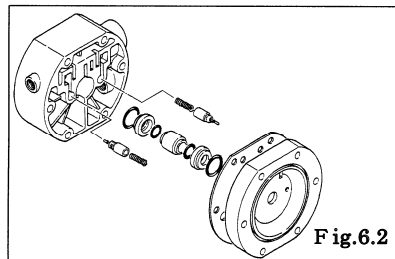

Fig.6.2
- Remove the body B. [Fig.6.2]
- Draw out the pilot valve assembly. [Fig.6.2]
- Remove the packing, bushing and guide. [Fig.6.2]